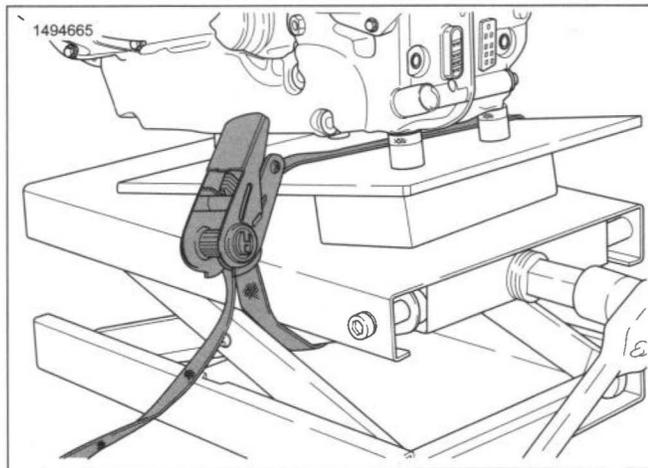

Figure 4-86. Powertrain Secured
- c. See Figure 4-86. Secure powertrain to flat jack.